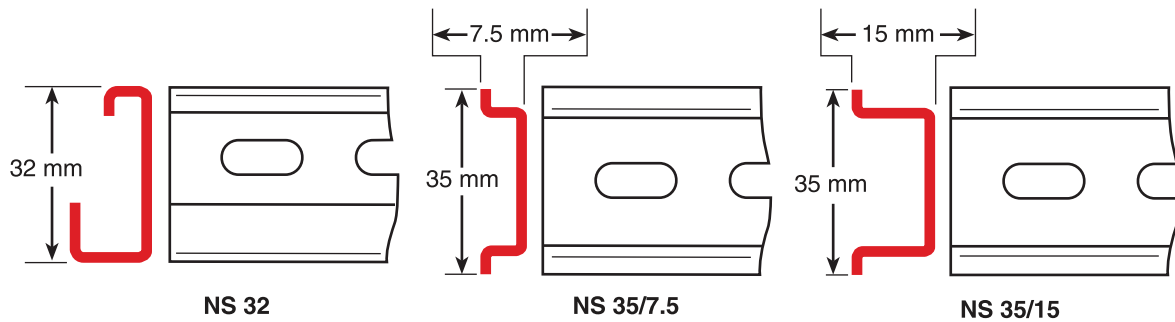

Figure 6. DIN rail types
4. The mounting clip can be attached to the following types of DIN rail (see figure 6):